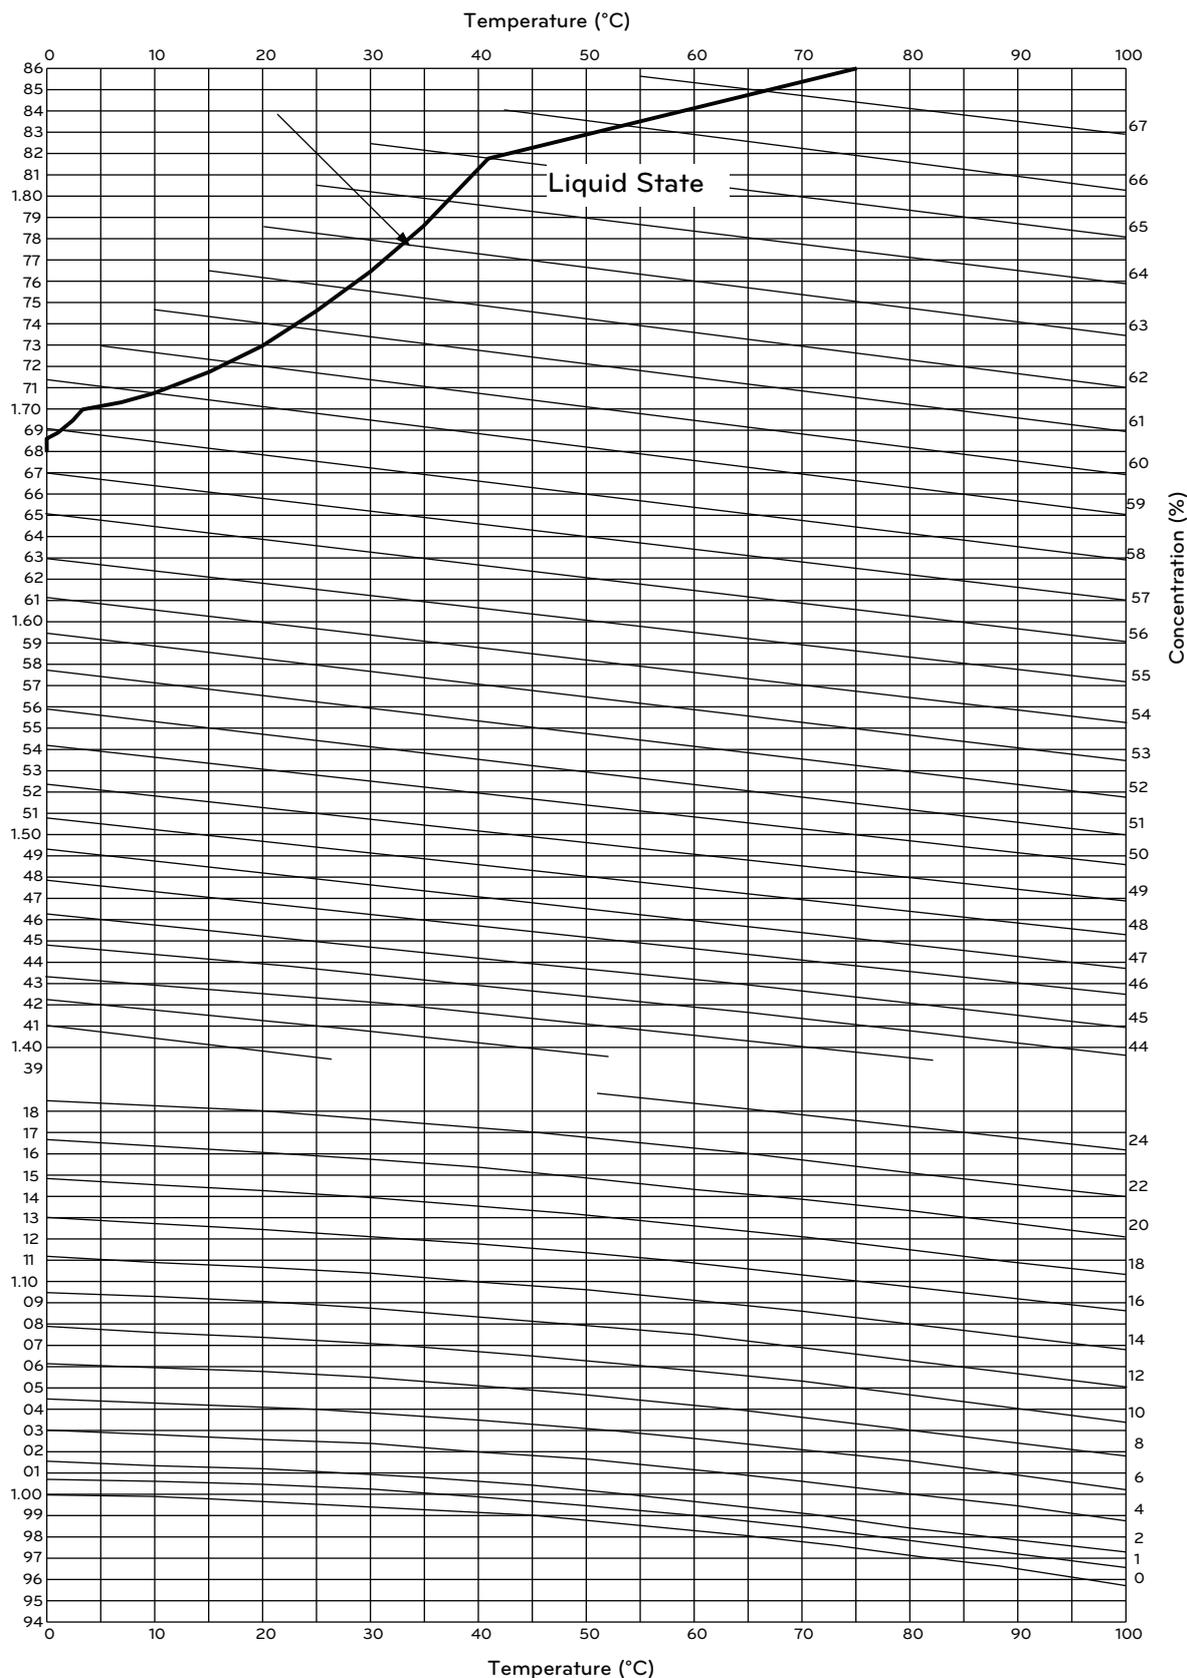

Figure 1-7. concentration curve of absorption solution
Specific weight of a solution of 'Lithium Bromide' (about 60% concentration) is much greater than that of water(1.0). (about 1.7 times) specific weight is determined by liquid concentration and its concentration can be found from the figure 1-7 duhring diagram, by measuring temperature and specific weight of absorption solution.
4. concentration curve of a solution of Lithium bromide (refer to the figure1-7)